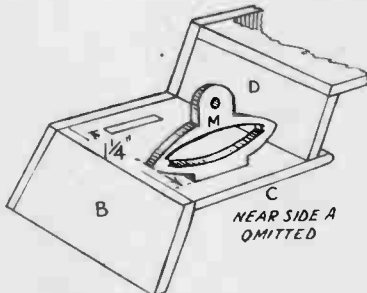
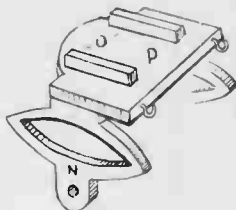

Fig. 3—Underview of spring
Fig. 4—Front springs
The shafts for the horse consist of the two parts (S) and (T) and both are given on the pattern sheet. Cut two of piece (T) and glue them as detail, Fig. 4 shows. Run in two small brass eyelets to engage the corresponding hooks on the front of piece (P) (see Figs. 3 and 2). Round off the shafts (T) before attaching them to (S).